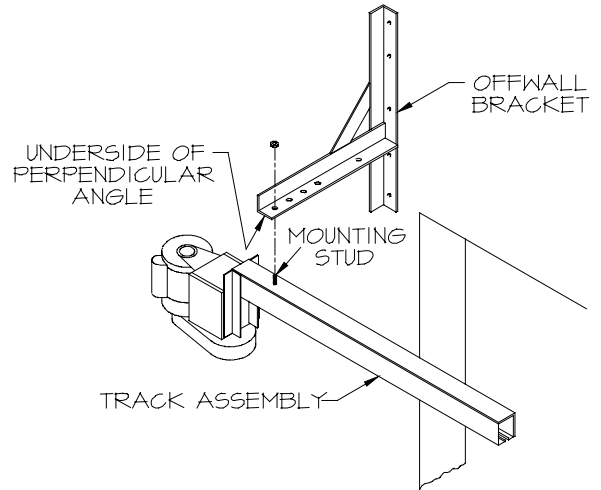

FIG. 10
- c. **Lift Track Assembly up** to the underside of the Perpendicular Angle (Figure 10).